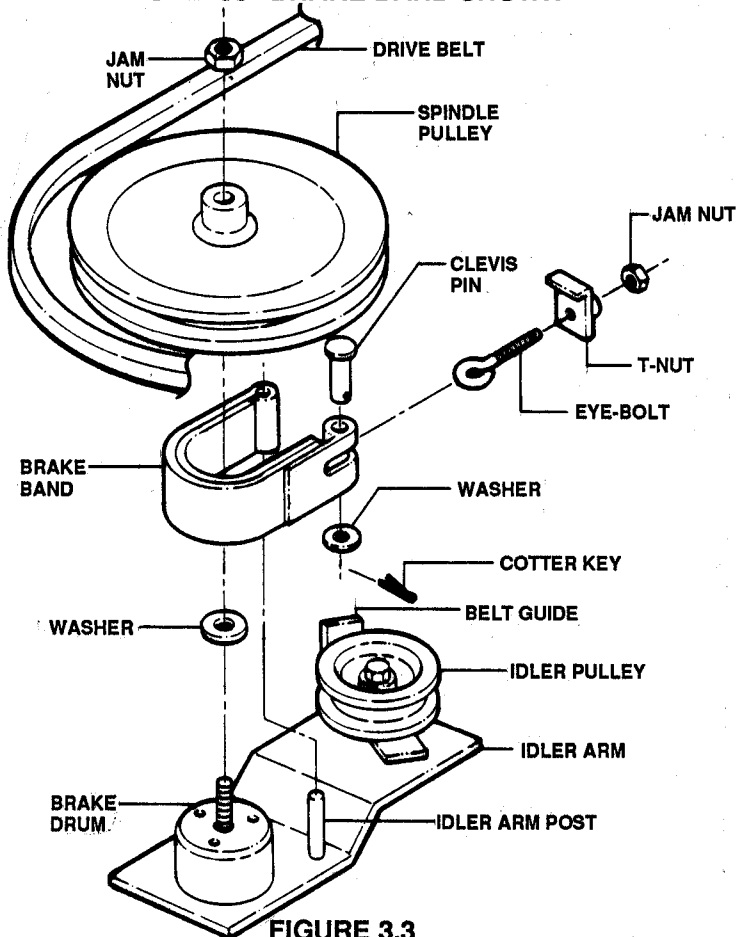

FIGURE 3.3
- D. Remove jam-nut and SPINDLE PULLEY. See Figure 3.3.